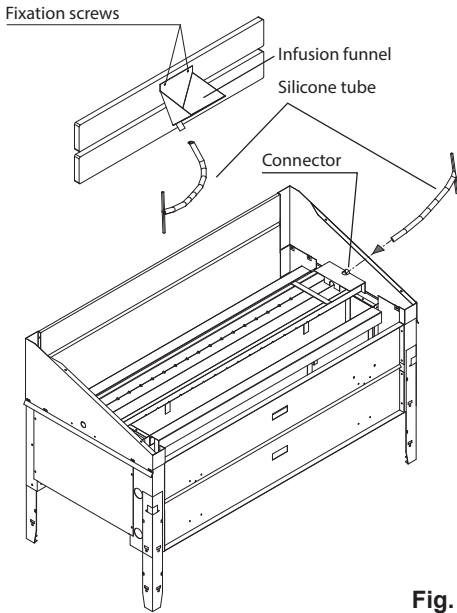

Fig. 6
7. Install the infusion funnel (Fig. 6)